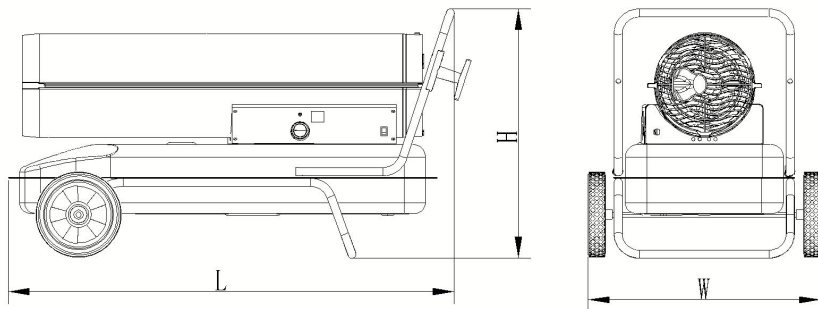

Fig.2
2. Slide Wheels onto each axle, ensuring that the valve stem (if pneumatic) is to the outside (see Fig.2)
3. Slide flat washers (L) onto the axle past the small hole. Insert the cotter pin in the axle hole and bend the pin's legs with needle nose pliers to secure.